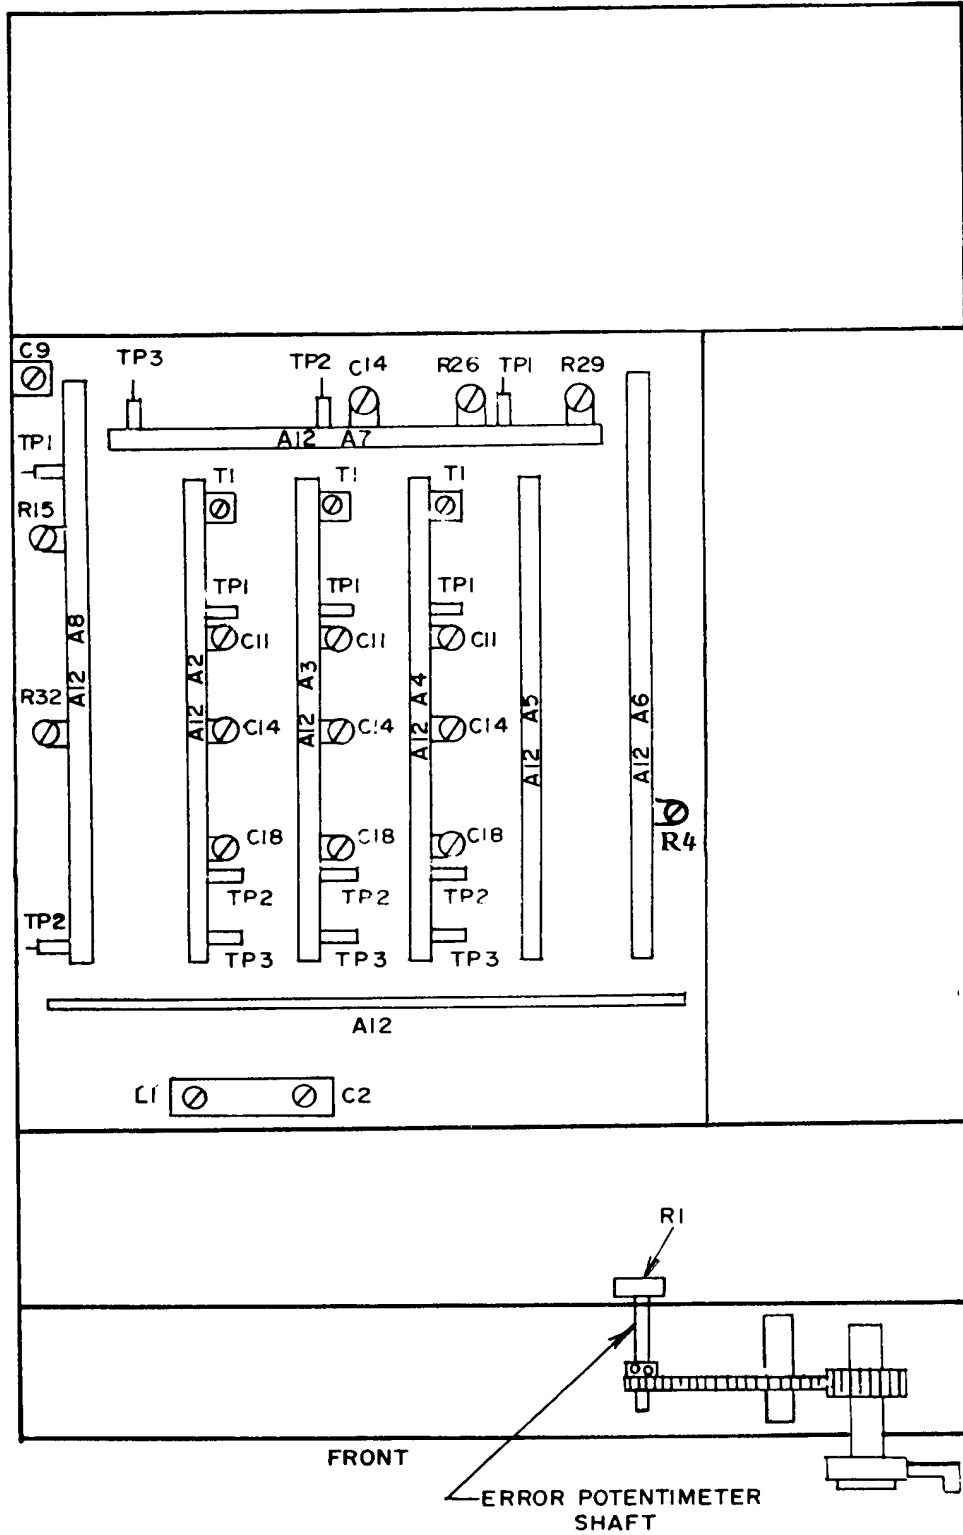

Figure 1. Model 745A bottom view - adjustment location.
(1) Press FREQUENCY RANGE X10K pushbutton and adjust FREQUENCY control for FREQ scale indication of 1.0.
(2) Adjust A12C2 (fig. 1) to obtain indication of 10.000 kHz (kilohertz) on frequency counter (R).
(3) Adjust FREQUENCY control slowly clockwise while observing frequency counter indication. If frequency increases, proceed to **b(6)** below. If frequency decreases, proceed to **b(4)** below.
(4) Repeat (1) above.
(5) While observing frequency counter indication, adjust A12C2 (fig. 1) to obtain a second 10 kHz output frequency (R). If a second 10 kHz cannot be obtained by adjusting A12C2, readjust A12C2 to obtain original 10 kHz frequency. While observing frequency counter indication, adjust A12L1 (fig. 1) in direction that causes output to decrease and pass through 0 (zero) Hz (hertz) and increase to 10 kHz. Adjust A12L1 to obtain indication of 10.000 kHz on frequency counter (R).
Frequency Counter Indication (kHz)	Set A1211 (fig. 1) to Obtain (kHz)
(8) Adjust A12L1 (fig. 1) to obtain frequency recorded in (7) above.
(9) Adjust FREQUENCY control counterclockwise to obtain FREQ scale indication of 10 kHz while observing frequency counter to insure that indication does not pass through 0 (zero) Hz. If output frequency passes through 0 (zero) Hz, repeat (2) through (8) above.
(10) Adjust FREQUENCY control to obtain scale indication of 1.0. Adjust A12C2 to obtain indication of 10.00 kHz on frequency counter.
(11) Repeat (6) through (10) above until frequency counter indications are within tolerance at frequency settings of 10 and 100 kHz.
(12) Repeat **a**(2) through (4) above and if lower frequency ranges (X10) through X1K) are still out of tolerance, perform **(a)** through **(t)** below.
(a) Extend circuit board A12A2 (fig. 1), using extender board furnished with TI.
(b) Connect oscilloscope (A7) to A12A2TP1 (fig. 1), using probe (B11).
(c) Adjust A12A2T1 (fig. 1) to obtain maximum amplitude of ac signal displayed on oscilloscope (R).
(e) Connect oscilloscope to A12A2TP2 (fig. 1), using probe.
(f) Adjust A12A2C11 and A12A2C18 (fig. 1) to obtain maximum amplitude of ac signal displayed on oscilloscope (R).
(h) Adjust A12A2C14 (fig. 1) to obtain maximum signal amplitude (R).
(j) Adjust A12A2C11 (fig. 1) to obtain maximum signal amplitude.
(k) Adjust FREQUENCY FREQ scale indications of from 1.0 to 11.0. Signal amplitude will be approximately same at both ends. Adjust A12A2C18 (fig. 1) to obtain same amplitude at both ends.
(m) Replace circuit board A12A2 in the TI and extend circuit board A12A3 (fig. 1), using extender board.
(n) Connect oscilloscope to A12A3TP1 (fig. 1), using probe.
(o) Adjust A12A3T1 (fig. 1) to obtain maximum signal amplitude as indicated on oscilloscope (R).
(q) Connect oscilloscope to A12A3TP2 (fig. 1), using probe.
(r) Adjust A12A3C11 A12A3C14, and AJ2A3C18 (fig. 1) to obtain maximum signal amplitude indication on oscilloscope (R).
(s) Replace circuit board A12A3 in TI and extend circuit board A12A4 fig. 1 using extender board.